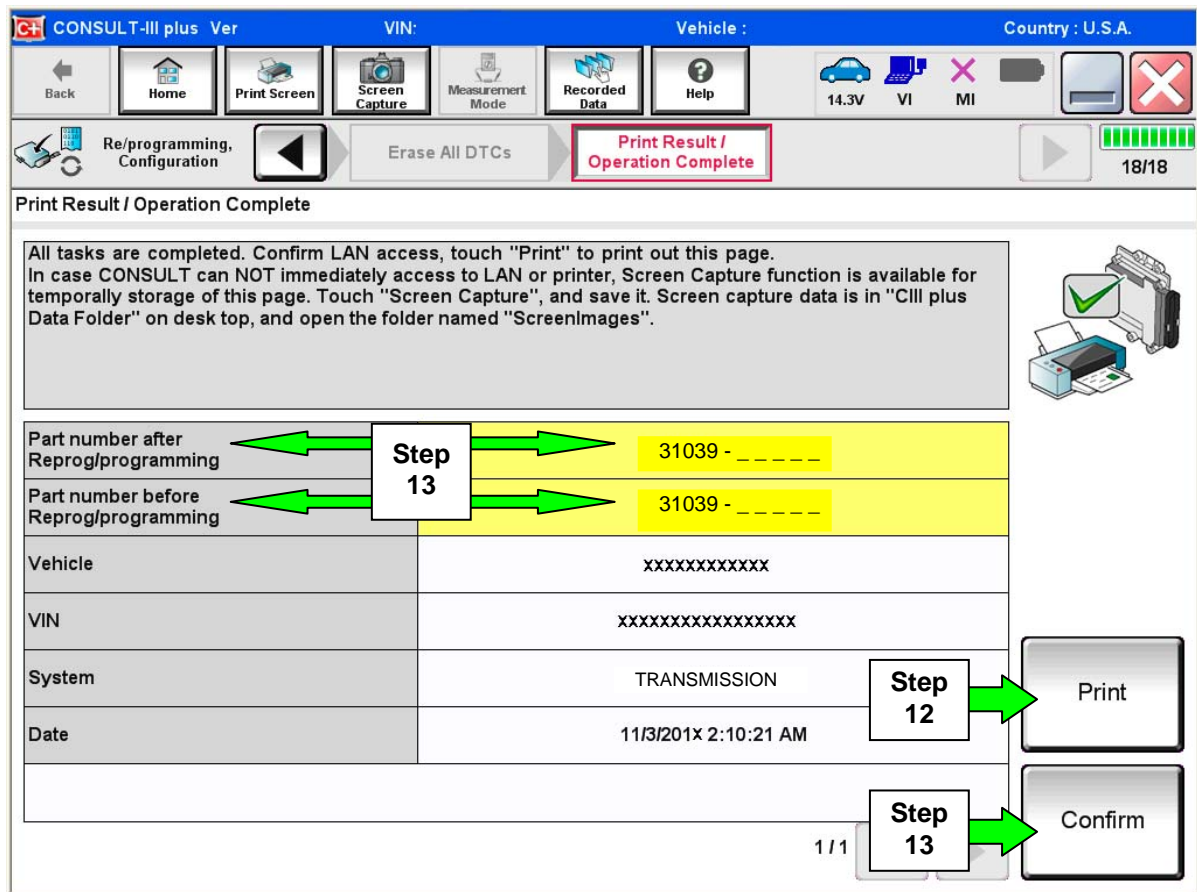

Figure 5
12. Print a copy of this screen (Figure 5) and attach it to the repair order for warranty documentation.